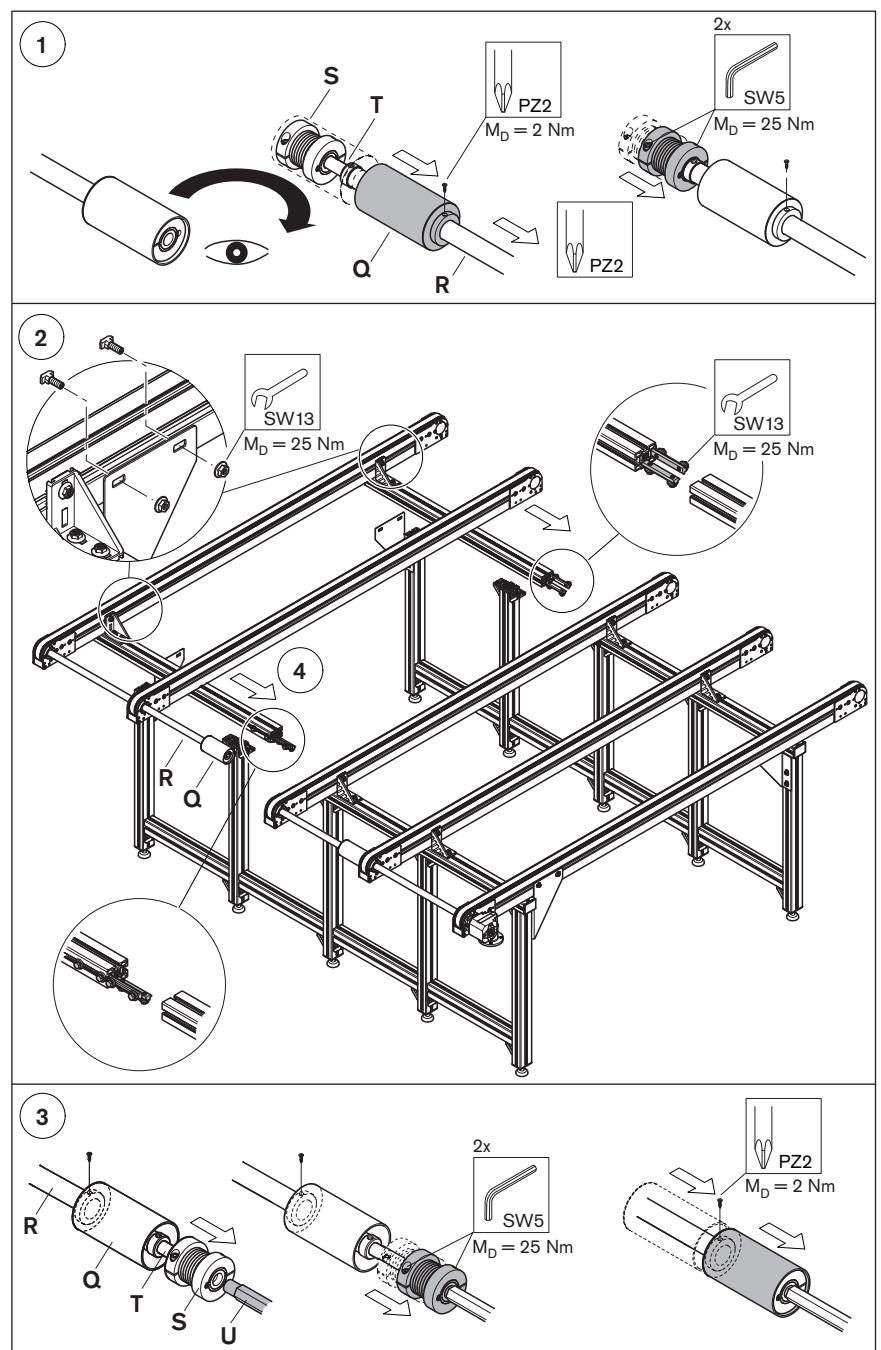

Fig. 8
- ▶ Connect the motor as a Y-connection or triangle connection in accordance with the connection plans; see "Fig. 8" on page 22 and the connection plan in the terminal box.
- ▶ Exchange any two wires (L1, L2 or L3, see "Fig. 8" on page 22) to change the motor's direction of rotation.